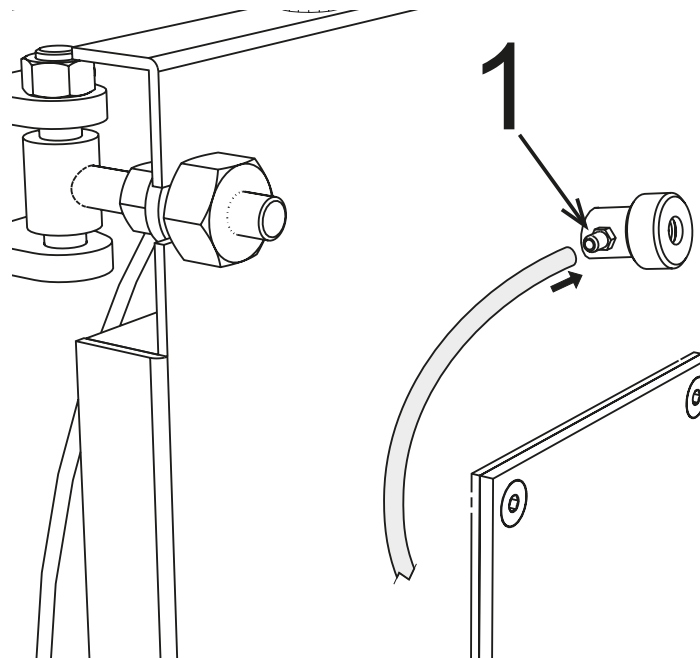

Fig. 16
The flame control sight glass has a pressure outlet (ref. 1 - Fig. 16) to be connected to the burner outlet via a tube in silicone (not supplied) or copper. This operation allows the air blown by the fan to cool the glass and prevent blackening. Failure to connect the tube to the sight glass can cause the glass to break.